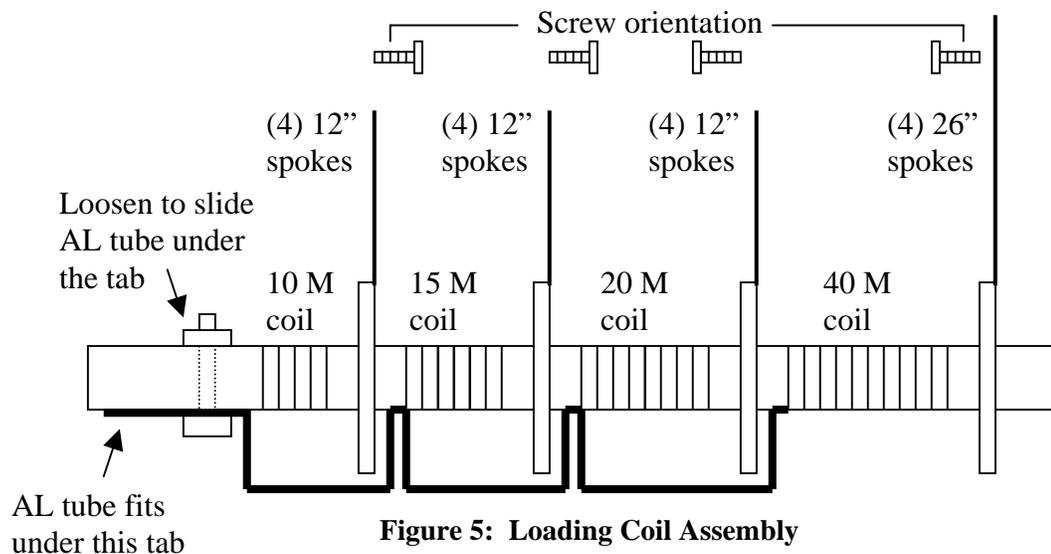

Figure 5: Loading Coil Assembly
11) Install the 6-32 screws in all rings of both loading coil assemblies, loosely holding them in place with their associated nuts. Position the screws so the threaded ends of the screws are pointed outward towards the two ends of each loading coil assembly as shown in Figure 5. .
- 16) Loosen the mounting screw indicated in Figure 5 so that the aluminum radiator can be slid under the aluminum tab. Slide the aluminum radiator tube until it contacts the mounting screw that was just loosened. Tighten the mounting screw. ***Do not over-tighten this screw or you may BREAK the fiberglass form.*** Slide the last hose clamp over the tab and tighten the hose clamp to firmly attach the loading assembly to the aluminum radiator.